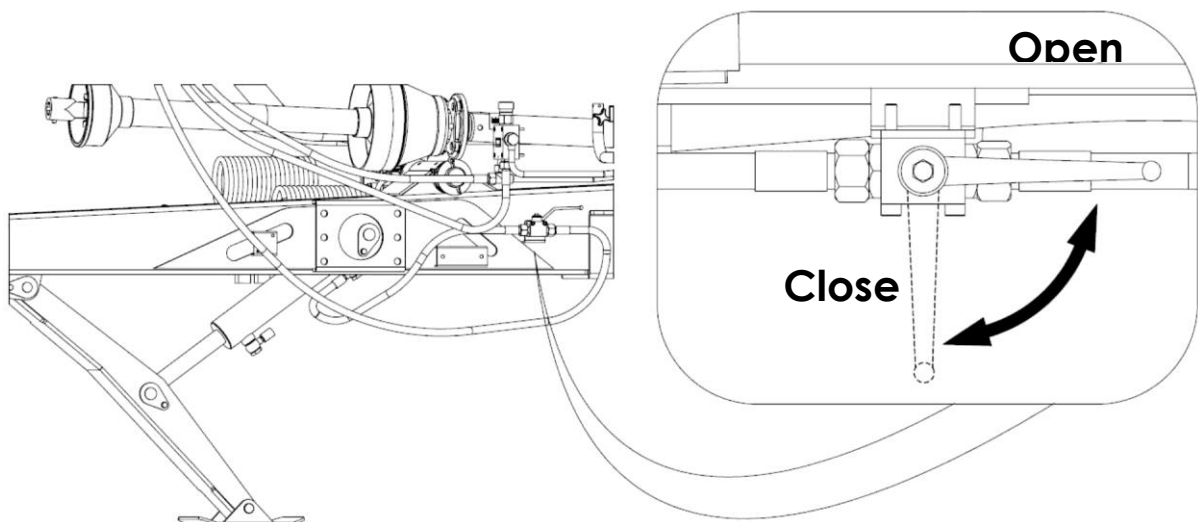

Fig. 20. Hydraulic valve to control (shut off) the hydraulic parking jack
- if the spreader is equipped with a hydraulic scissor parking jack, connect the jack hydraulic lines to the tractor's external hydraulic sockets (Figure 20); open the foot's hydraulic locking valve on the drawbar; use the distributor lever in the tractor to raise or lower the drawbar eye to a height that makes it possible to connect it to the tractor's hitch.